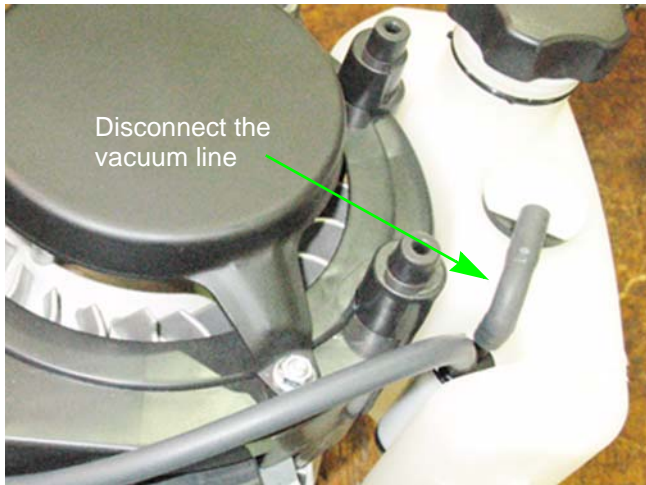

Figure 4.15
1. Disconnect the vacuum line. See Figure 4.15.